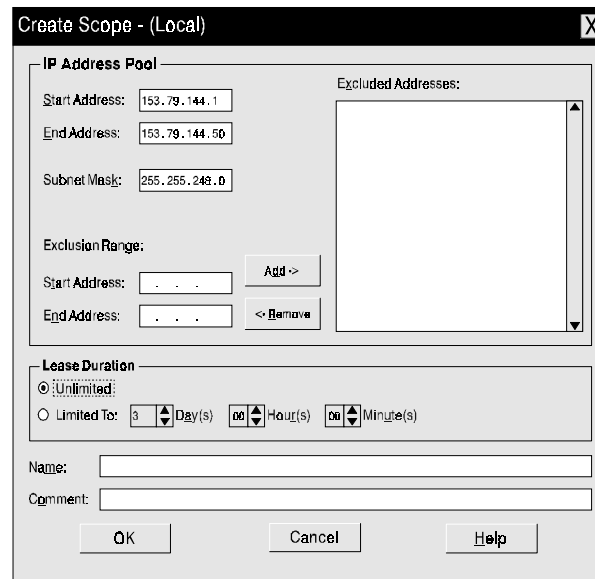

Figure 6. Create Scope Screen
- b. Select Scope → Create (Figure 6 displays).